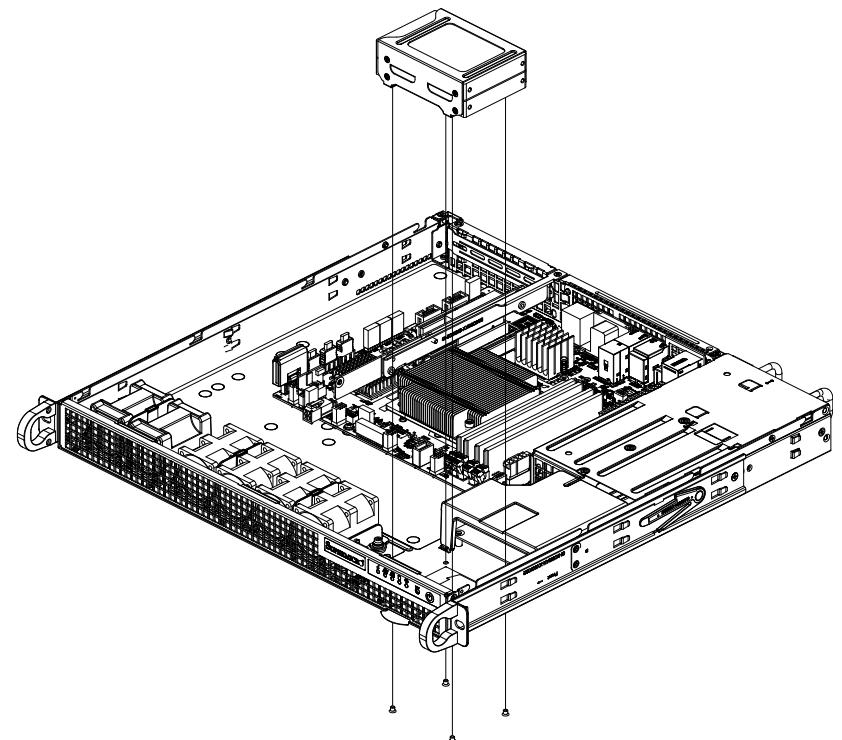

Figure 6-4. Securing the HDD Tray to the Chassis Floor
2. Secure the HDD bracket to the chassis floor. (Figure 6-4)